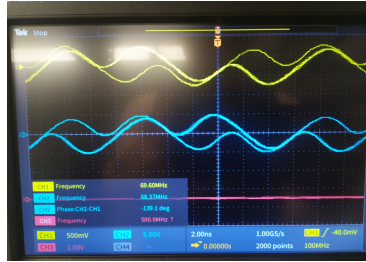

Figure 3: Unexpected waveform on the QM output (corresponding to new frequencies components in the spectrum)
- Sometimes one may observe unexpected waveform on the QM output as shown in Figure 3. (corresponding to new frequencies components in the spectrum). The appearance of these components are likely caused by an voltage overflow. The output range of QM machine is  $[-0.5, 0.5]$  V. Applying the IQ imbalance matrix for example can result in higher voltage values at the analog output than the voltage specified on the **waveforms** in the **configuration.py** file. One need to make sure that the overall voltage is within the range of the analog outputs. Any overflow will be automatically clamped by QM therefore causing unwanted harmonics.